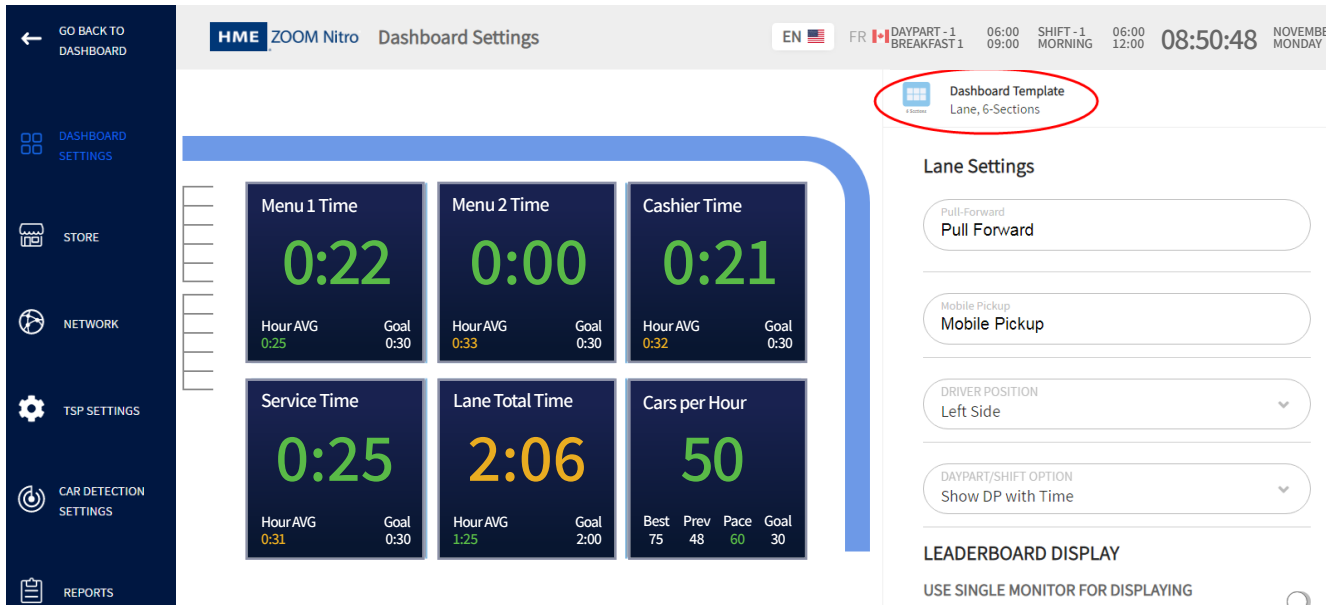

Fig. 3.1
**Why is it needed?** You may wish to configure and customize the look and feel of your Dashboard. This includes choosing what measured events you would like to display on your Dashboard. Click on any Data Section to open it for editing. The editable fields for the Data Section are displayed on the right side of the screen. For example, the Lane graphic in Fig. 3.1 was clicked so the **Lane Settings** fields on the right are available for editing.
**Screen details explained:** To adjust the layout of this screen, click on the  icon found in the upper portion of the screen or the adjacent down arrow icon  next to it (see Fig. 3.1).